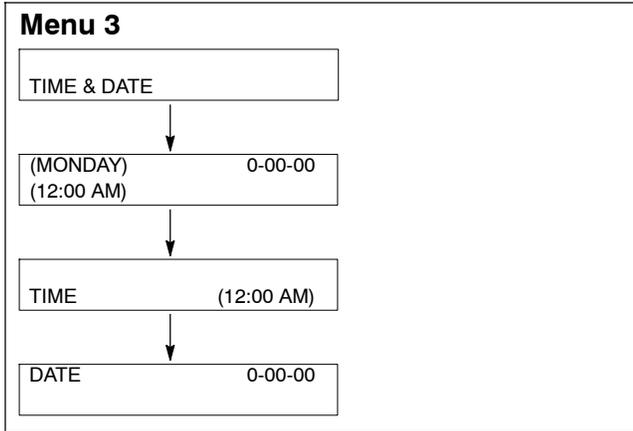

Figure 11 Menu 3, Time and Date
- 13.1 Press the Reset Menu key, enter 3, and press the Enter key to go to Menu 3, Time and Date. See Figure 11.